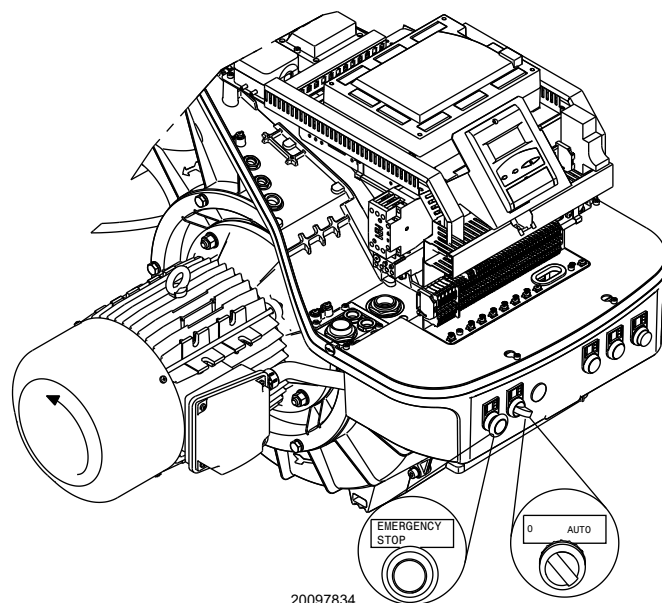

Fig. 24
Turn the switch to position **"AUTO"** (Fig. 24).
Make sure that the lamps or testers connected to the solenoids, or indicator lights on the solenoids themselves, show that no voltage is present. If voltage is present, stop the burner **immediately** and check the electrical wiring. When the burner starts, check the direction of the motor rotation, as indicated in Fig. 24.
- place the switch of Fig. 24 in position **"0"** and wait for the control box to carry out the switch-off phase;
- using the switch **0-AUTO** of Fig. 24 on page 27.